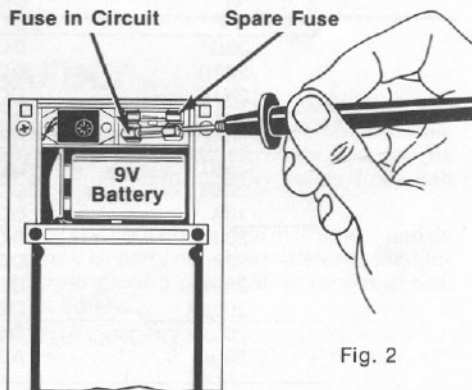

Fig. 2
3. Remove the fuse installed in the metal fuse clips using the end of the one test lead as shown in fig. 2.